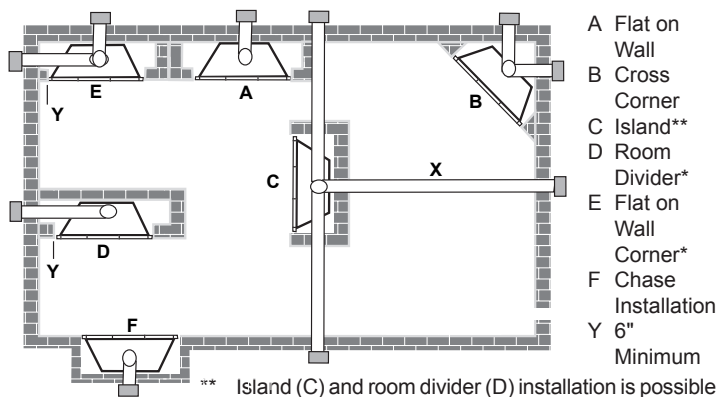

Figure 3 - Locating Gas Fireplace
- This fireplace may be installed along a wall, across a corner, or use an exterior chase. Refer to Figure 3 for suggested locations.